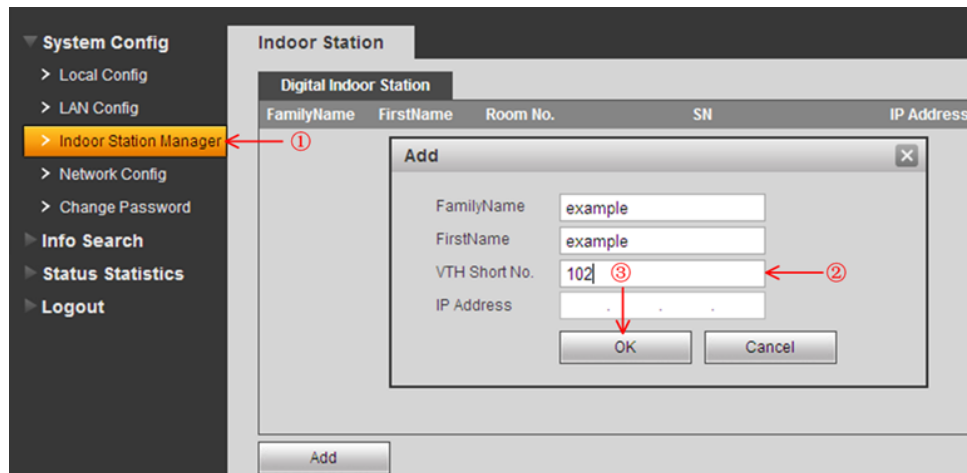

Figure 2-3
Step 2 Check Indoor Station Manager, click on Add to add one VTH Short No., such as: 102. See Figure 2-3.
Step 1 Check Product Info, set Room No.(it need be same with the VTH short No. in Figure 2-3), Local IP, Subnet Mask, Gateway, then point OK to save it . See Figure 2-4.